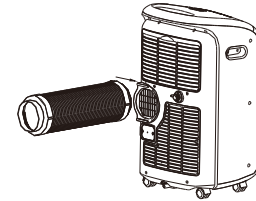

Fig. 18
2. Push the Exhaust hose into the air outlet opening along the arrow direction(See Fig.18)